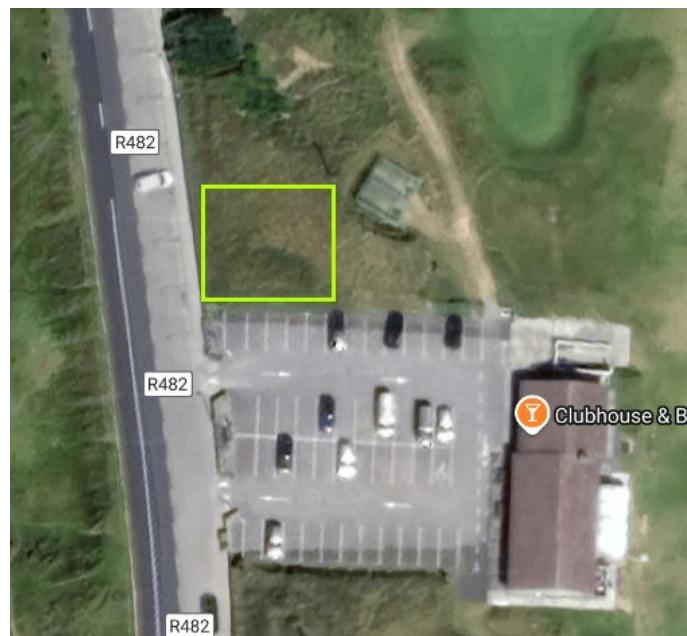

Figure 3: Proposed location of Solar PV system
- the area highlighted in yellow in Figure 3 would allow for a potential 18 kW Solar PV system.